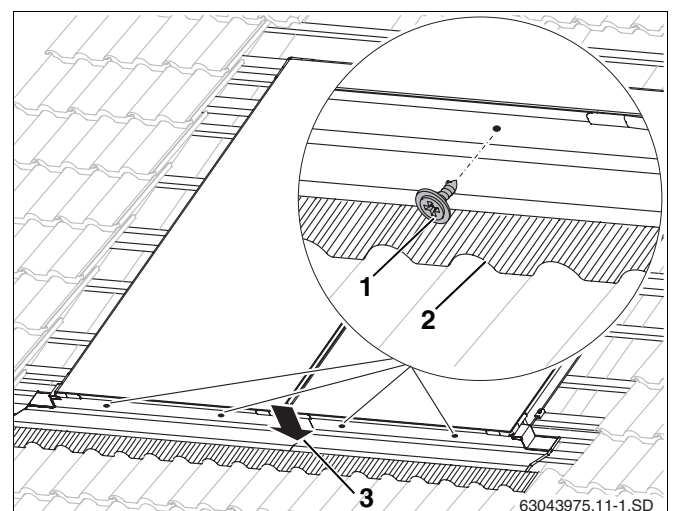

Fig. 46 Fastening the lower panels
- ▶ Fasten the panels with screws (12 mm long, Fig. 46, **Pos. 1**) and sealing discs in the centre punch marked on the panel.
- ▶ Press the upper facing panel down onto the lower one (Fig. 46, **Item 3**).
- ▶ Carefully adjust flashing in the area in front of the roof tile contour (Fig. 46, **Item 2**).